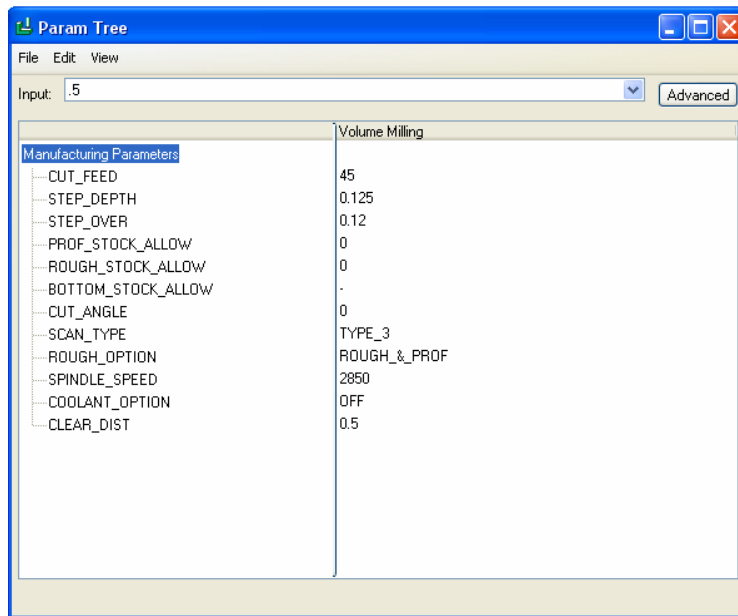

Figure 12: Manufacturing Tool Parameters
Step 5: Enter the tool parameters shown in Figure 12. They are the same as was used before. You could also have selected Use Previous.